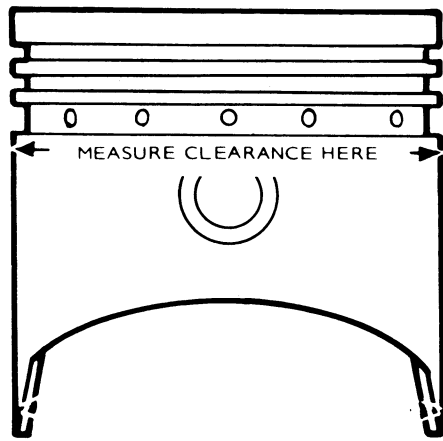

FIGURE 33. MEASURING PISTON CLEARANCE
2. Measure the piston to cylinder clearance as shown in Figure 33 to be sure the total clearance follows specifications.